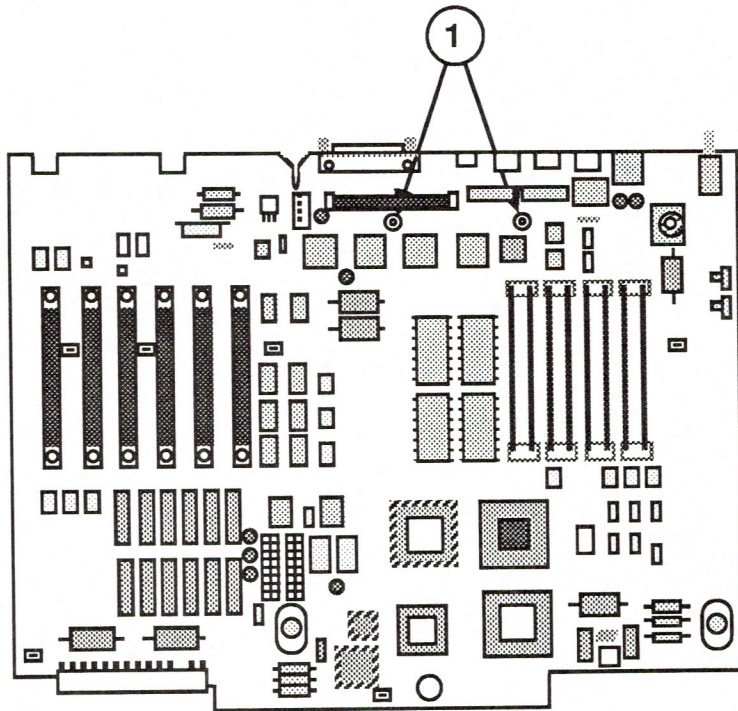

FIGURE 12
3. Remove the two screws that hold the logic board in place (Figure 12, #1).
3. Replace the two screws (Figure 12, #1).